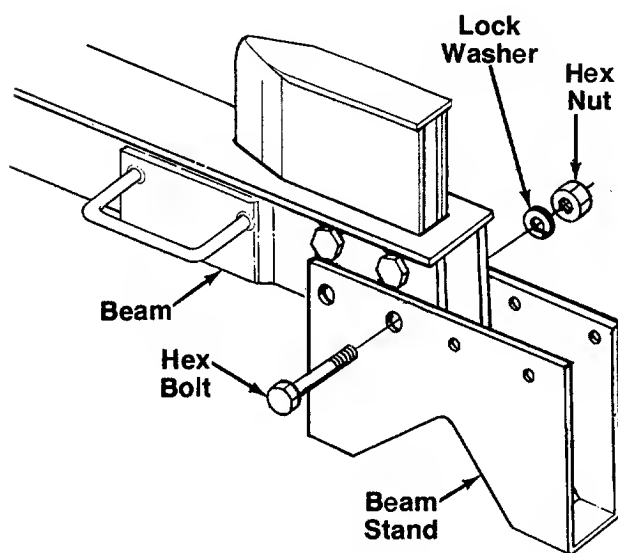

FIGURE 4.
2. Place the beam stand in position as shown in figure 4. Secure to beam and wedge with hardware just removed, using the larger holes in beam stand. Tighten securely.